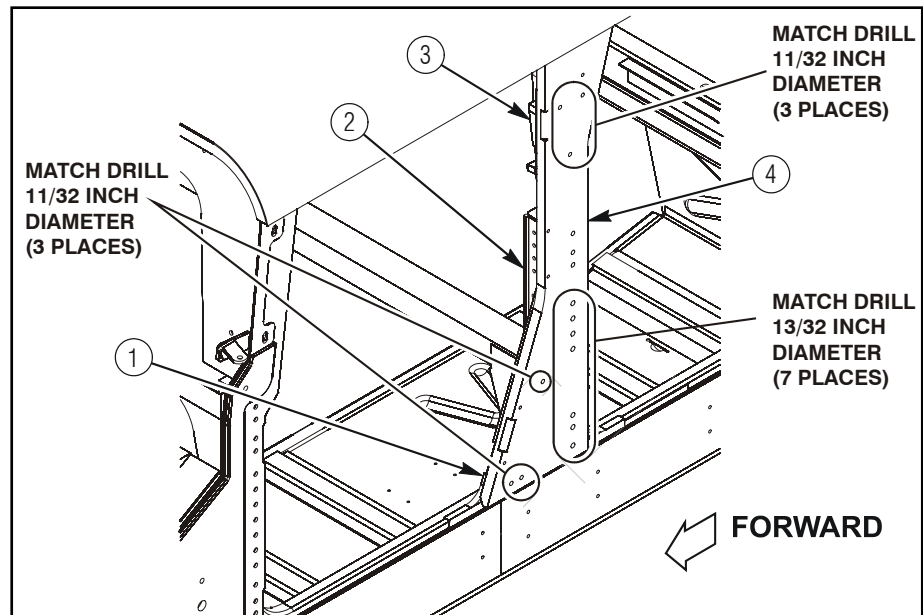

Figure 13a.
11. Clamp left B-pillar plate (4) to vehicle B-pillar (2) and match drill seven 13/32 inch diameter holes through B-pillar plate (4) and vehicle B-pillar (2). Refer to figure 13a.
12. Match drill three 11/32 inch diameter holes through left B-pillar plate (4) and B-pillar sail panel (1). Refer to figure 13a.
13. Match drill three 11/32 inch diameter holes through left B-pillar plate (4) and left turret support tube bracket subassembly (3). Refer to figure 13a.